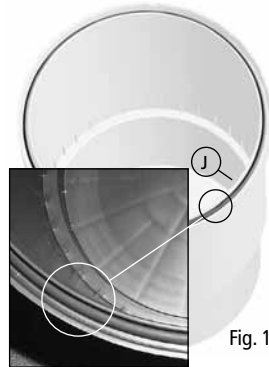

Fig. 1
- Before the first start-up, it is necessary to install the Filter Lid O-Ring (I), which is supplied in a separate poly bag. This O-ring must be correctly inserted in its seat at the top of the filter canister (Fig. 1).